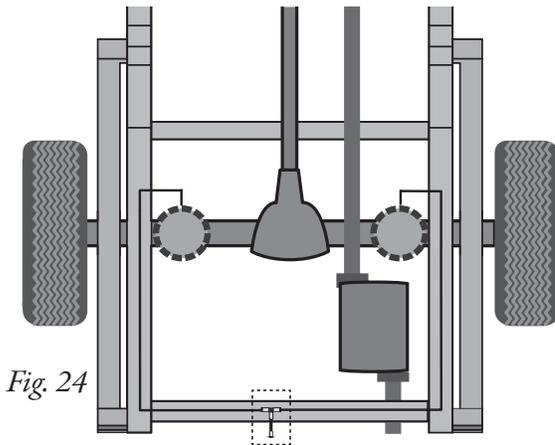

Fig. 23
22. Keep routing the air line over the spare tire to the back. Find a suitable location for the inflation valve/valves away from the exhaust (as the air line installation section suggests) and install the Schrader valve/valves (fig. 23).